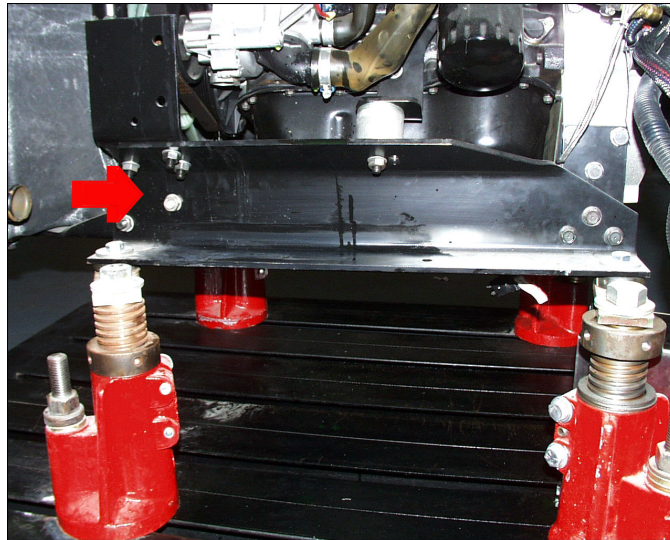

Figure 6
- 106 Use an engine lift to install an engine cradle (Arrow in Figure 6) to the engine using the appropriate mounting bolts.